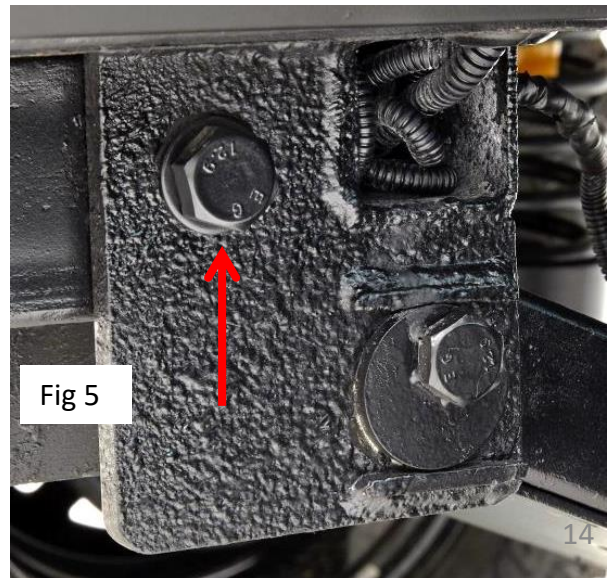

Fig 5
7. Loosely attach tongue to trailing arm bracket using M16 bolts, flat washers, lock washers and nuts.. Do not tighten hardware at this time. hardware. Fig 5.